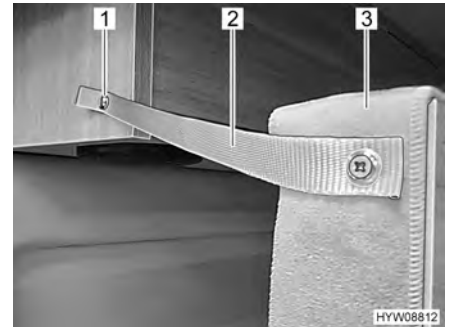

Fig. 53 Securing, back
- Secure the bed (Fig. 53,3) to the roof cabinet with the securing strap (Fig. 53,2) and snap fastener (Fig. 53,1).
- Undo the snap fastener (Fig. 53,1) on the roof cabinet.